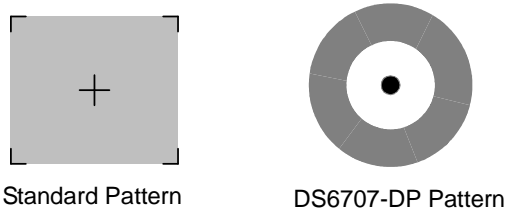

Figure 2-2 Laser Aiming Pattern
- When the digital imager scanner senses movement, in its default **Auto Aim** trigger mode, it projects a red laser aiming pattern (*Figure 2-2*) which allows positioning the bar code or object within the field of view. (To turn off the default **Auto Aim** trigger mode, see *Trigger Mode on page 4-9*.) If necessary, the digital imager scanner turns on its red LEDs to illuminate the target bar code.